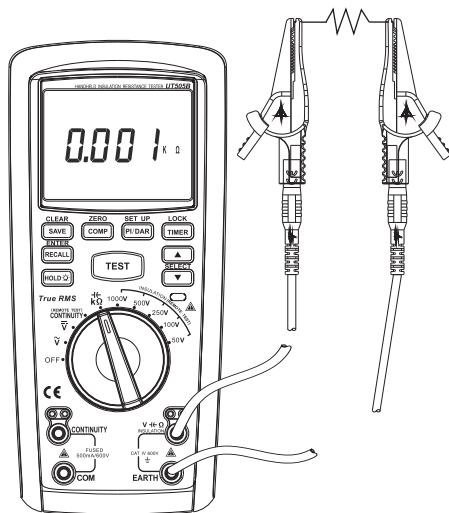

Figure 7
4.1 Measuring of Resistance (See Figure 7)
- ① Insert the red probe into “V” jack (red jack), and black one into “EARTH” jack (black jack).
- ② Rotate dial switch to “KΩ/⚡” tap position and connect the probe to two ends of tested resistance in parallel.
- ③ Read current measuring value of resistance from the display.
- ④ In measuring, if intending to save measured resistance, press the key of “SAVE/CLEAR” for saving.